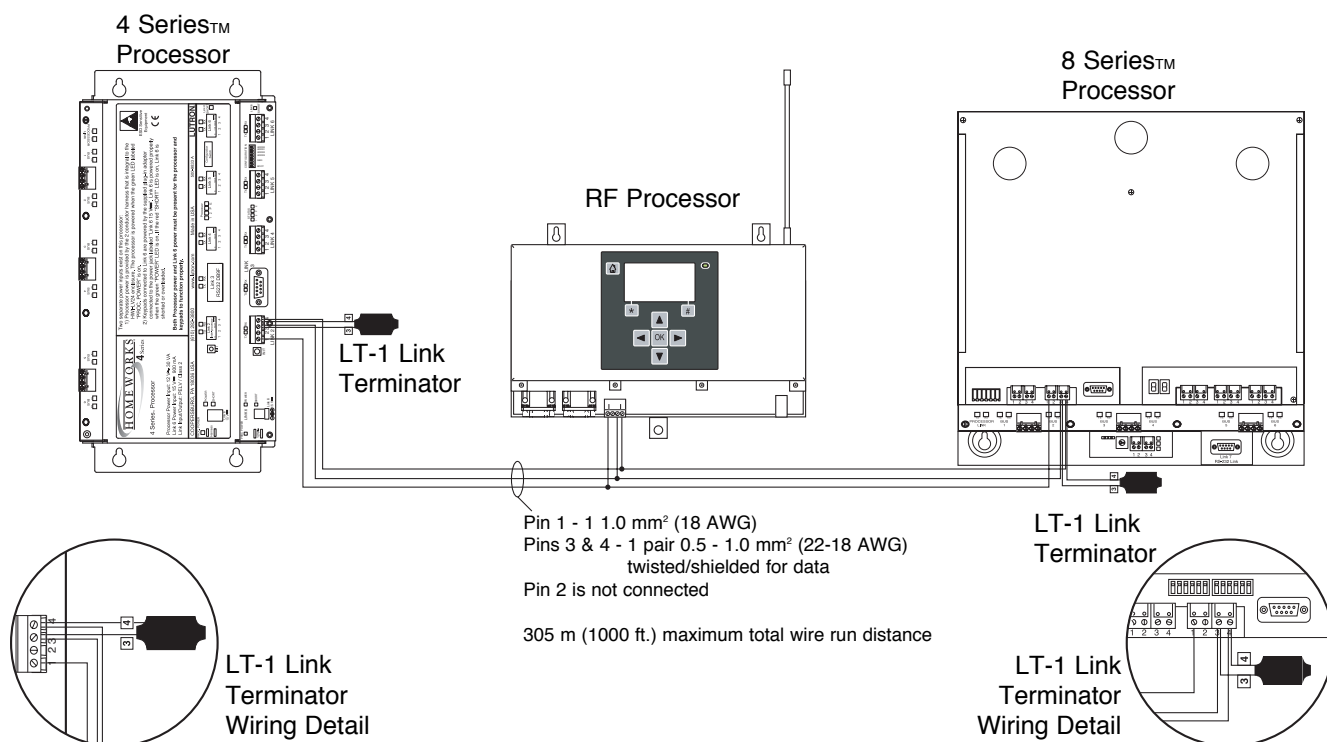

Figure 5 - Daisy Chained HomeWorks® Processors
5. **Connect Dimmer Hub links:** A harness connects Link 4 to the factory installed Dimmer Hub. If additional HWI-H48-CE boards are to be controlled by this processor, the communication link to those boards should be connected into the same terminal block. Do not connect terminal 2 to an HWI-H48-CE. If the H48 Link has a cable length of 15 m (50 ft.) or more, LT-1 link terminators must be installed across MUX and MUX (terminals 3 and 4) at both ends of the link. Refer to HWI-H48-CE instructions (see Figure 5, page 4).
6. **Connect Inter-processor Link (multiple processor installations only):** The Inter-processor Link is used for communication between HomeWorks Processors. Connect control wiring to the Inter-processor Link (Link 2), if required. Do not connect terminal 2 (see Figure 5, page 4). If this processor is to be the first or last processor in the daisy chain, attach one of the LT-1 link terminators provided across the MUX and MUX (terminals 3 and 4—see Figure 5, page 3). If LT-1 terminators are unavailable, a 1/2 W resistor between 100 and 150 Ohms may be placed across terminals 3 and 4 to provide termination.